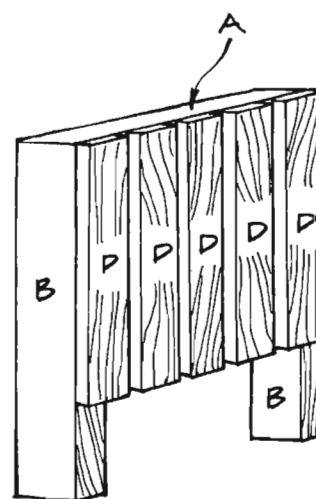

Figure 2
1. Cut five trim pieces (D) from 1 x 4 treated lumber, each 17 inches long. They are attached to the outer edges of the bench side panels.
2. Place the five trim pieces (D) side by side on top of the side panels (*Figure 2*). The outermost trim pieces (D) should be flush with the outer edges of the legs (A), and the remaining three trim pieces (D) should be evenly spaced in the middle.
3. Secure the five trim pieces by screwing them to the armrest (A) and to the side supports using 1-1/2-inch-long screws. Space the screws uniformly, and use two screws for each end of all trim pieces. The finished bench looks much nicer if all of the screws are aligned across the trim pieces. To accomplish this, measure and mark 3/4 inch from both ends of each board, draw lines across each trim piece at the marks, and put all of your screws on those lines.